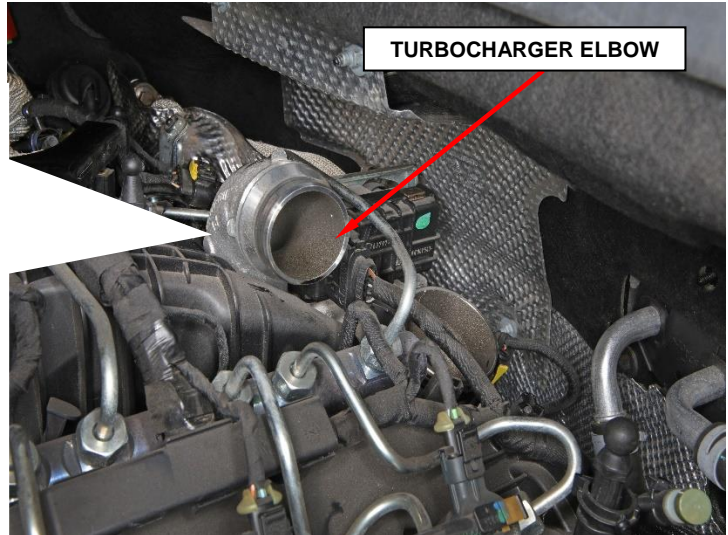

Figure 13 – Turbocharger Elbow
15. Remove the 2 bolts and the turbocharger outlet elbow (Figure 13).